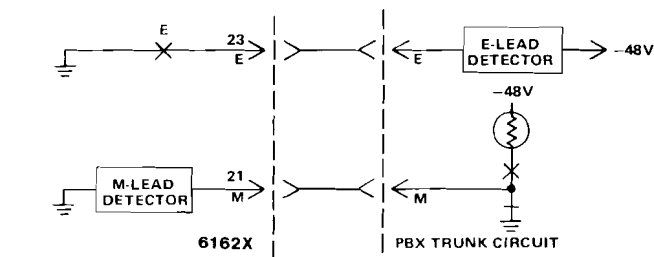

figure 5. Type I E&M interface (TL 11M); A side
2.11 Figures 5 through 9 show the various E&M signaling interfaces listed in table 2. Either Type I, II, or III E&M signaling interface can be selected via switch. Type I is often used with electromechanical switching systems, while Types II and III are often used in electronic switching environments.